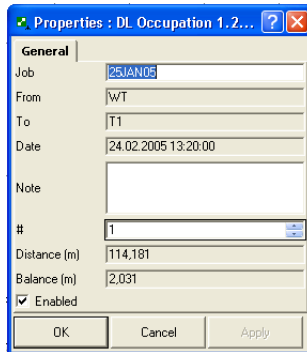

Figure 5-126. General Properties
2. View or edit *General* tab fields. Edit the name, order and note of the job, as needed (Figure 5-126 on page 5-89).
- View or edit *General* tab fields (see Figure 5-126 on page 5-89). Edit the *Start Point* and *End Point* parameters as needed.